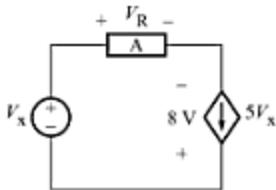

Fig. A-55
- A-6. In the circuit shown in Fig. A-55, if $V_x = 1 \text{ V}$ and $V_R = 9 \text{ V}$, calculate (a) the power absorbed by the element A , (b) the power supplied by each of the two sources. [Ans. (a) 45 W ; (b) $5 \text{ W}, 40 \text{ W}$]